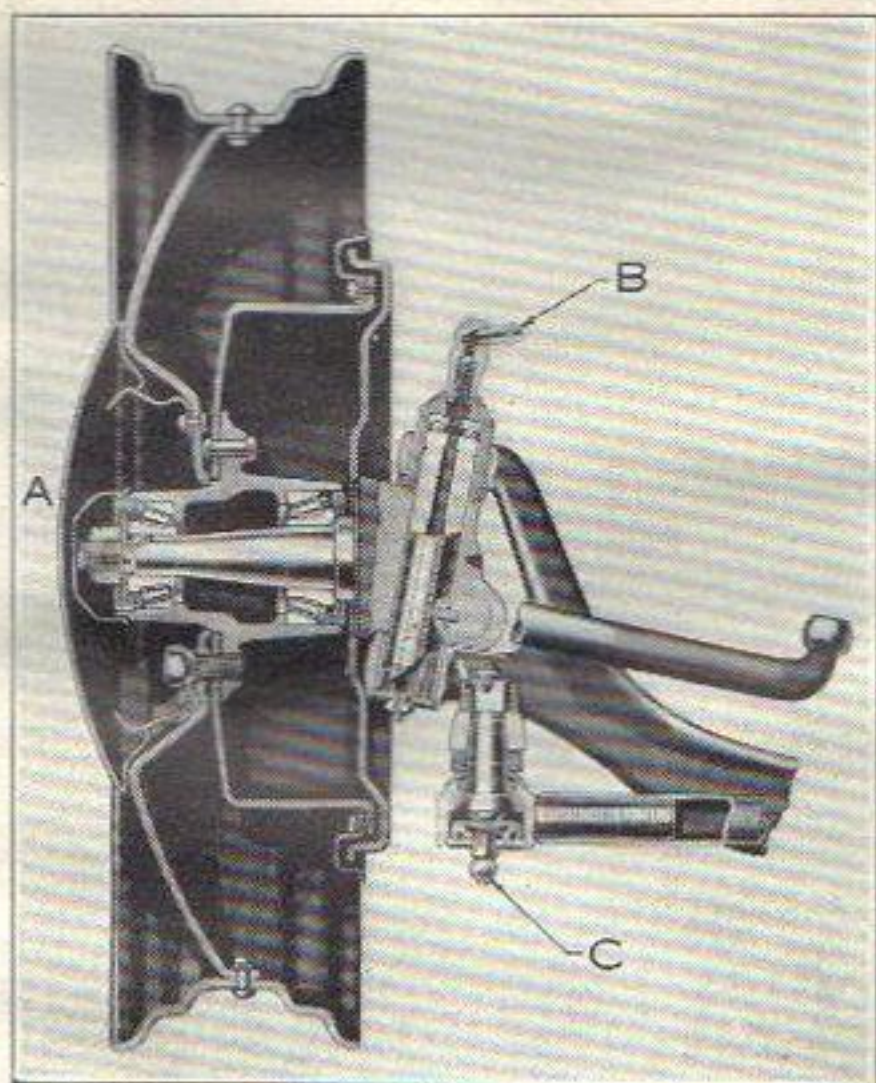

Figure 34
After jacking up the front axle and removing the outer and inner hub caps, withdraw the cotter key holding nut (A), Figure 34. Turn nut to the right until a slight drag is felt when turning the front wheel by hand. Then loosen the nut just sufficiently to permit the wheel to turn freely. Insert cotter key, hub caps and lower car.
Every 1,000 miles the front axle spindle pivot pin lubrication fittings (B), Figure 34, tie rod end lubrication fittings (C) and front axle bearing lubrication fittings should be lubricated with viscous chassis lubricant.